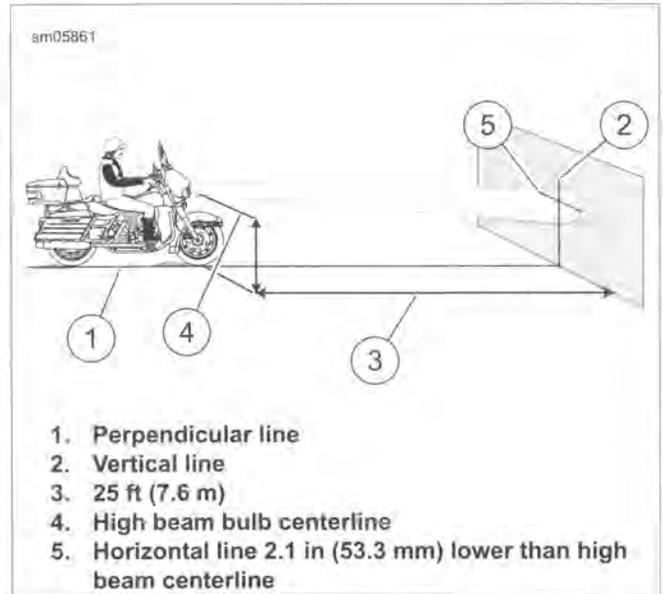

Figure 1-49. Headlamp Alignment: Quartz Halogen Type
4. See Figure 1-49. Park the motorcycle on a line (1) perpendicular to the wall.
6. Draw a vertical centerline (2) on the wall.
7. With the motorcycle loaded, point the front wheel straight forward at wall. Measure the distance (4) from the floor to the bulb centerline:
8. Draw a horizontal line (5) through the vertical line:
- a. **Quartz Halogen:** See Figure 1-49. 2.1 in (53.3 mm) lower than **high beam** bulb centerline.